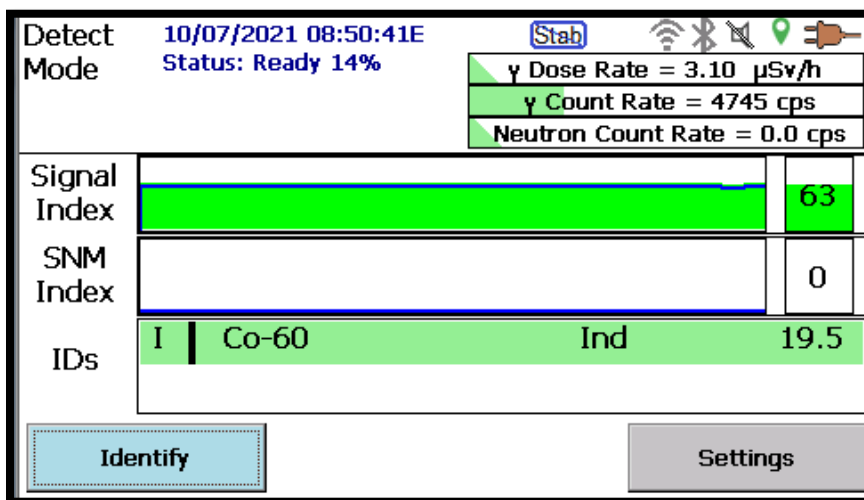

Figure 52. Detect Mode Screen
The Detect Mode screen (Figure 52) is the startup screen. Use it to survey areas and fixed or moving objects for sources of radioactivity.
- When radioactive nuclides are identified during the search process, the IDs appear in the section below the strip charts. Note the Co-60 identification in Figure 52. These IDs are present as long as the material remains in the detector field of view, then are removed from the screen.